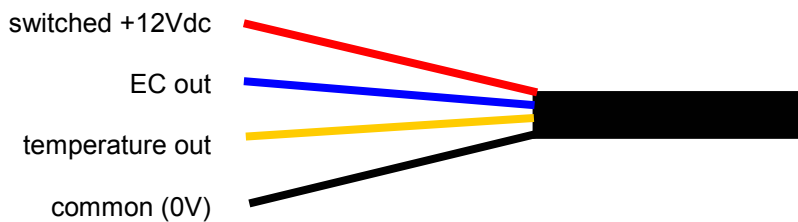

Figure 8. 1500 4-20mA cable conductor designation
- ◆ Apply power to the sensor (figure 8.)